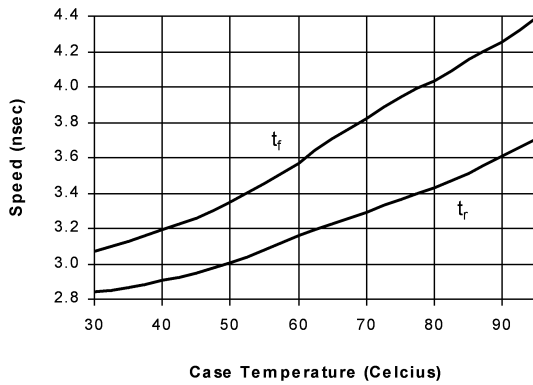

FIGURE 4. Speed vs Temp.
*Figure 4* shows the performance of the LM2462 in the test circuit shown in *Figure 2* as a function of case temperature. The figure shows that both the rise and fall times of the LM2462 increase by approximately 46% as the case temperature increases from 30°C to 95°C. This corresponds to a speed degradation of 7.1% for every 10°C rise in case temperature.